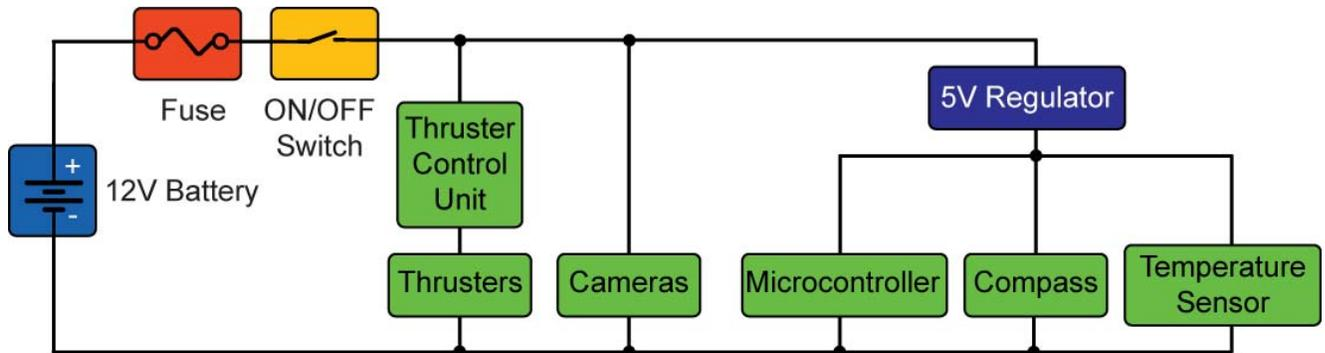

Figure 24: ROV Subsystems Requiring Different Voltages
- Your ROV may have subsystems that require different operating voltages. In Figure 24, for example, the thrusters and cameras operate at +12 volts while the microcontroller and compass circuits run on +5 volts.